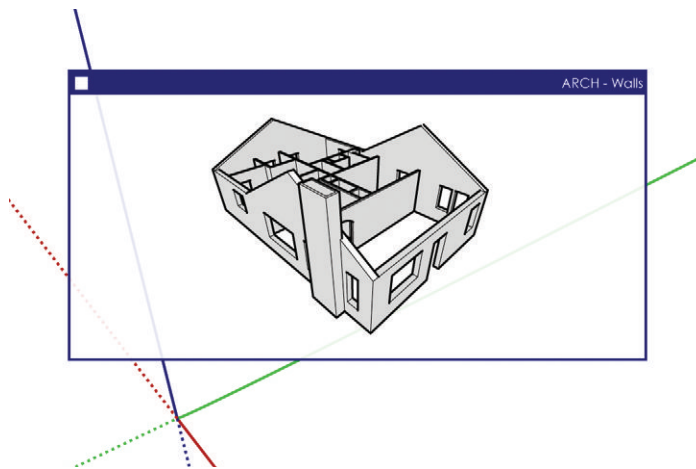

Figure 17.33 Walls
4. In the *Entity Info* dialog, assign the ARCH – Walls layer to the group containing the walls (Figure 17.33).